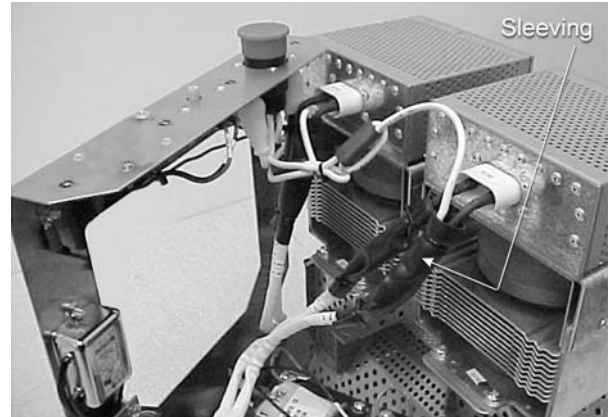

Figure 4-17 Black Sleeving
2. See Figure 4-17. Cut the four ties securing the black sleeving over the high-voltage ring terminals.